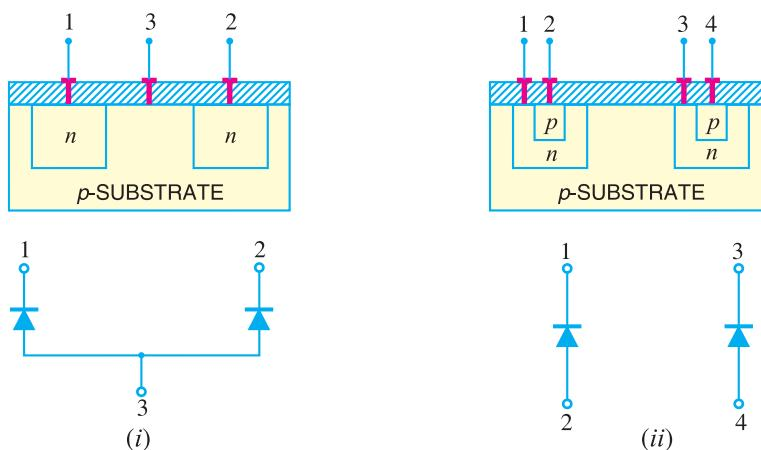

Fig. 23.10
**(i) Two-diode IC.** Fig. 23.10 (i) shows a two-diode IC with a common anode whereas Fig. 23.10 (ii) shows a two-diode IC with individual anode.
Two points are worth noting. Firstly, any circuit [ like the one shown in Fig 23.10 (i) or Fig 23.10 (ii)] is not integrated individually ; rather hundreds of alike circuits are simultaneously fabricated on a wafer. The wafer is then cut into chips so that each chip area represents one circuit. This is the key factor for low cost of *ICs* and is exerting considerable influence on electronics engineers to switch over to *IC* technology. Secondly, *ICs* are usually not as simple as shown in Fig. 23.10. In fact, actual *ICs* contain a large number of components.